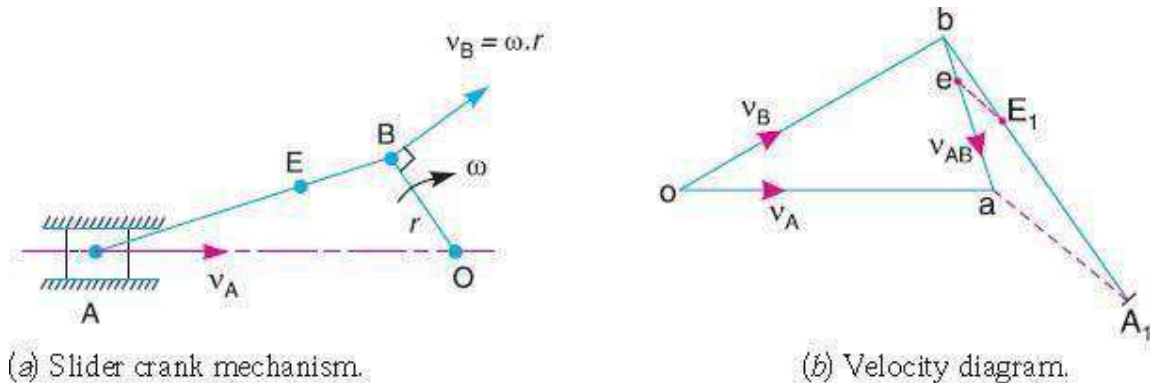

Fig. 3.5
- A slider crank mechanism is shown in Fig. 3.5 (a). The slider A is attached to the connecting rod AB. Let the radius of crank OB be  $r$  and let it rotate in a clockwise direction, about the point O with uniform angular velocity  $\omega$  rad/s. Therefore, the velocity of B i.e.  $v_B$  is known in magnitude and direction. The slider reciprocates along the line of stroke AO.
- 1 From any point o, draw vector ob parallel to the direction of  $v_B$  (or perpendicular to OB) such that  $ob = v_B = \omega \cdot r$ , to some suitable scale, as shown in Fig. 3.5 (b).